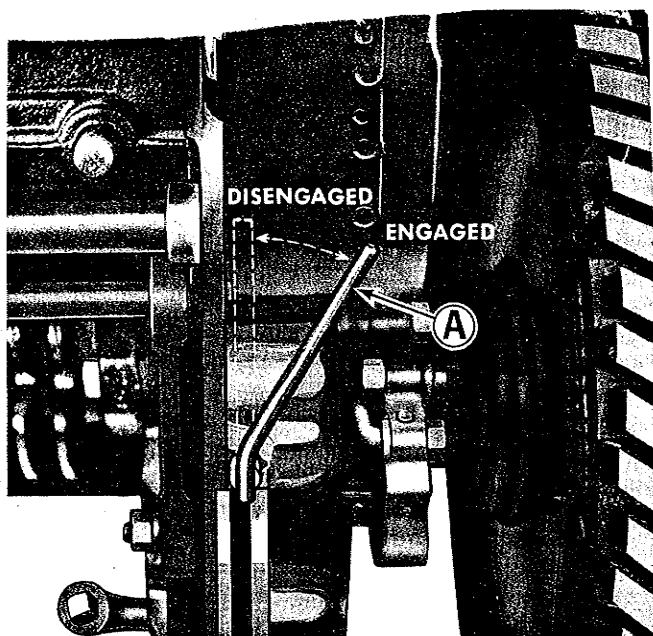

Figure 5. Gear shift disconnect lever.
To move the tractor **FORWARD** grip the control lever squeezing the lock release lever toward the knob and move the control lever forward. The gear shift lever (Figure 5, item A) must also be in the drive position for the tractor to operate. The farther forward from neutral the control lever is pushed, the faster the tractor will move forward at a given engine speed. To slow or stop the tractor when it is moving forward, squeeze the lock release lever toward the knob and pull the control lever rearward slowly toward the neutral position. You can place the hydrostatic transmission in neutral from the forward position without watching it by slightly pushing to the right on the control lever as it is moved rearward. The control lever will stop against the notched portion of the guide when it reaches neutral.
**GEAR SHIFT LEVER:** (Figure 5, item A) The gear shift lever located at the rear of tractors equipped with the hydrostatic transmission is used to disengage the transmission from the rear axle. With the lever in the NEUTRAL position, the tractor may be moved without engine power. To engage, move the lever to the right, as shown in Figure 5. Disengage the shift lever by pushing the shift lever to the left as shown in Figure 5.